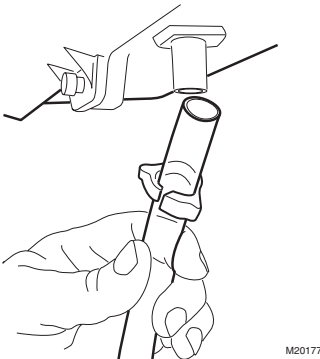

Fig. 7. Installing drain tubing.
4. Connect a 1/2 in. (13 mm) drain tube to the humidifier drain fitting and run to the floor drain (see Fig. 7).